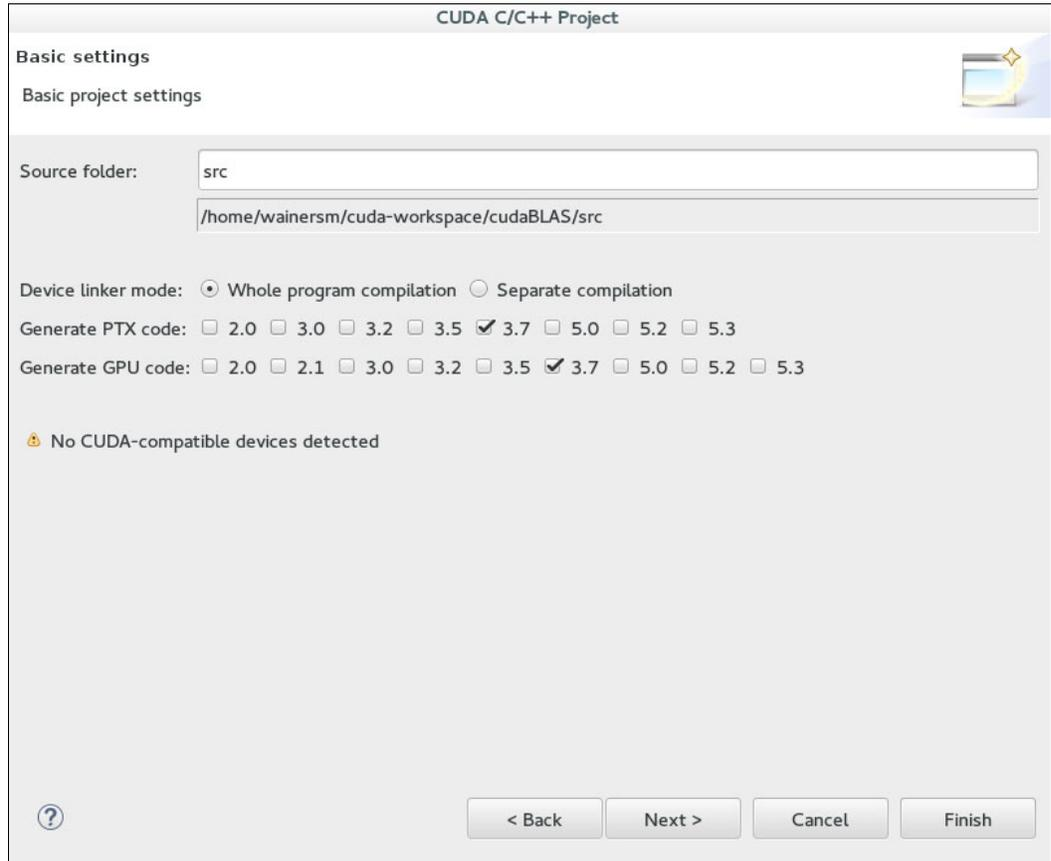

Figure 4-33 Nsight: New CUDA C/C++ project basic settings
3. Select **3.7** for the **Generate PTX code** and **Generate GPU code** options, as shown in Figure 4-33. Click **Next**.